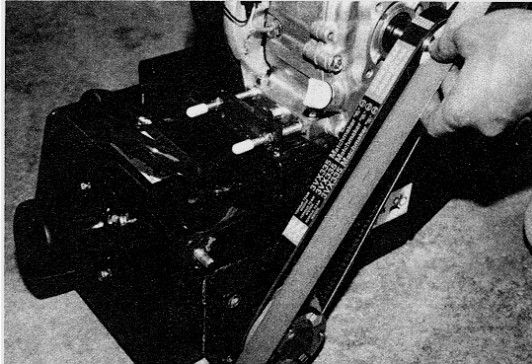

FIGURE 33
5) Belt alignment is checked with the straightedge. Place the straightedge squarely against the driveshaft pulley. Properly aligned pulleys should also place the straightedge squarely against the engine pulley. FIGURE 33. Remove the straightedge and rotate the engine pulley 120 degrees. Recheck alignment with the straightedge. Repeat the process until the engine pulley is rotated a full 360 degrees. Maximum allowable misalignment is $\pm 1/32$ inch. If pulley alignment is not within specifications, refer to **INSTALLING A REPLACEMENT V-BELT** for specific information.